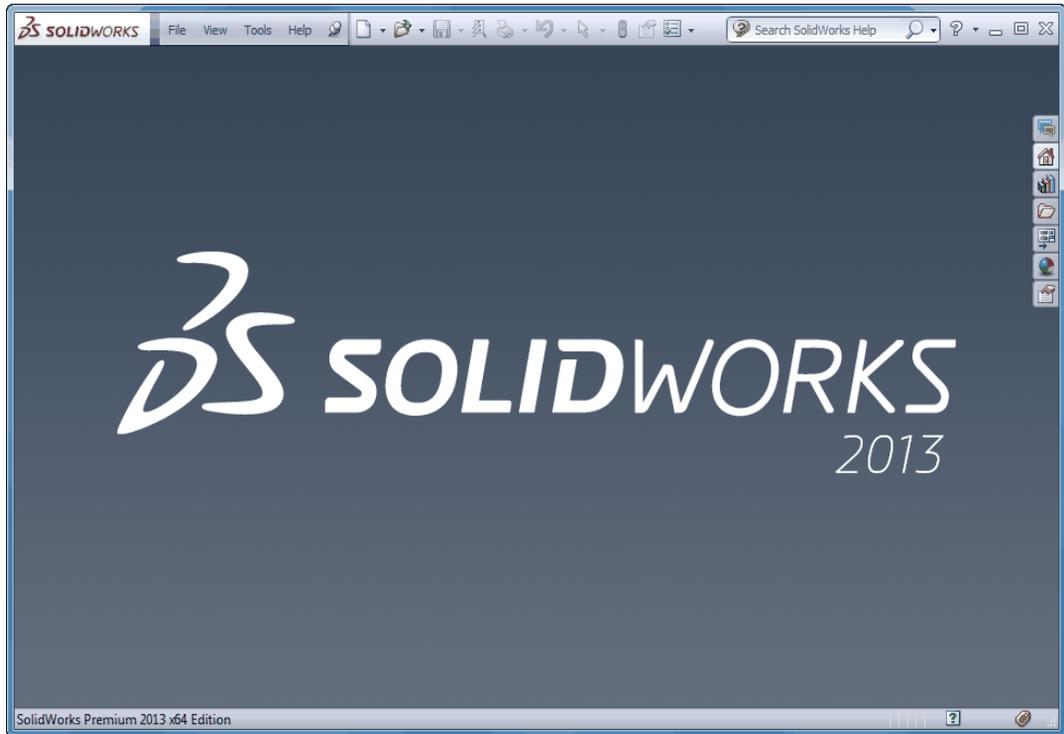

Figure 7 SolidWorks window on first launch
- 4 Exit SolidWorks and restart it before attempting to use APEX. This restart registers the license keys. The SolidWorks window is displayed. See Figure 7.